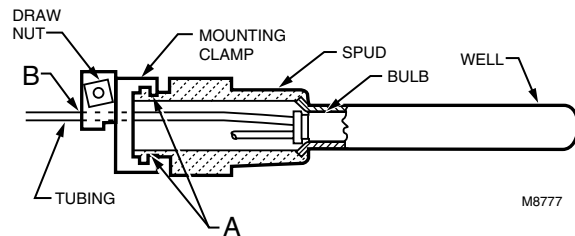

Fig. 4. Immersion well fitting.
Using Immersion Well (Fig. 4)
3. Attach the retainer clamp to the end of the well spud. Loosen the draw nut and spread the jaws of the clamp with a screwdriver if necessary. See Fig. 4.